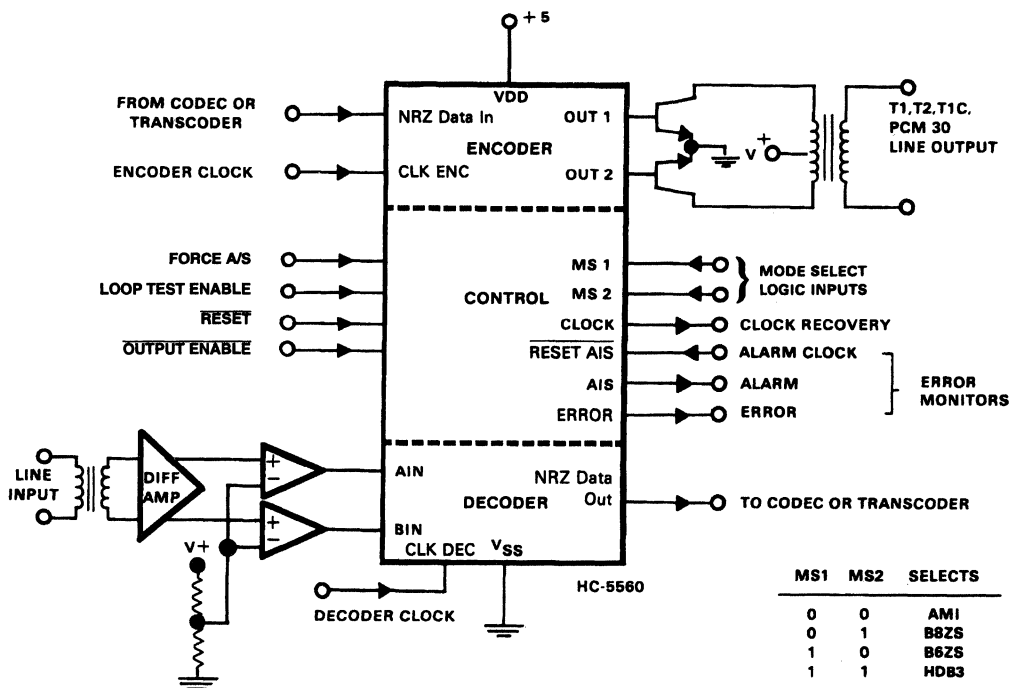

FIGURE 3. BASIC TRNASCODER APPLICATIONS CIRCUIT
The basic applications circuit is shown in Figure 3. The encoder accepts serially clocked unipolar non-return to zero (NRZ/PCM) data at the NRZ IN pin and codes it into two unipolar return to zero (RZ) signals at pins OUT1 and OUT2. A coding scheme is chosen via mode select pins MS1 and MS2. Data is clocked in on the negative edge of ECLK and clocked out on the positive edge of ECLK. The outputs must be mixed externally, via a transistor/transformer network, to produce the ternary 'bipolar' code selected and to drive the transmission line. The length of OUT1 and OUT2 are set by the length of the positive ECLK pulse.